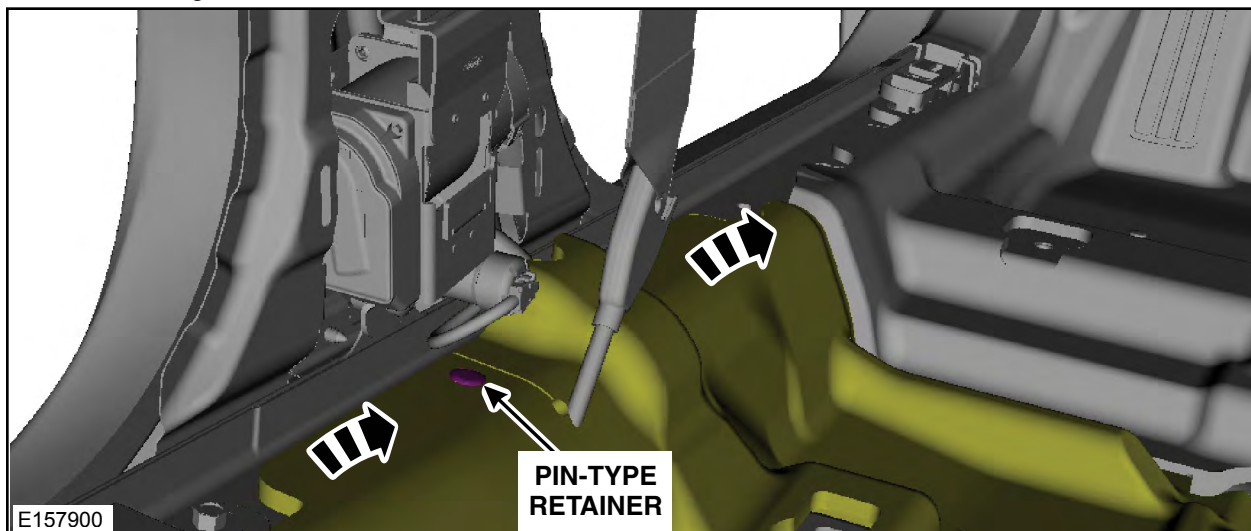

FIGURE 1
2. Remove the pin-type retainers on both sides, and position the carpet aside to access both front seatbelt pretensioner assemblies. See Figure 1.